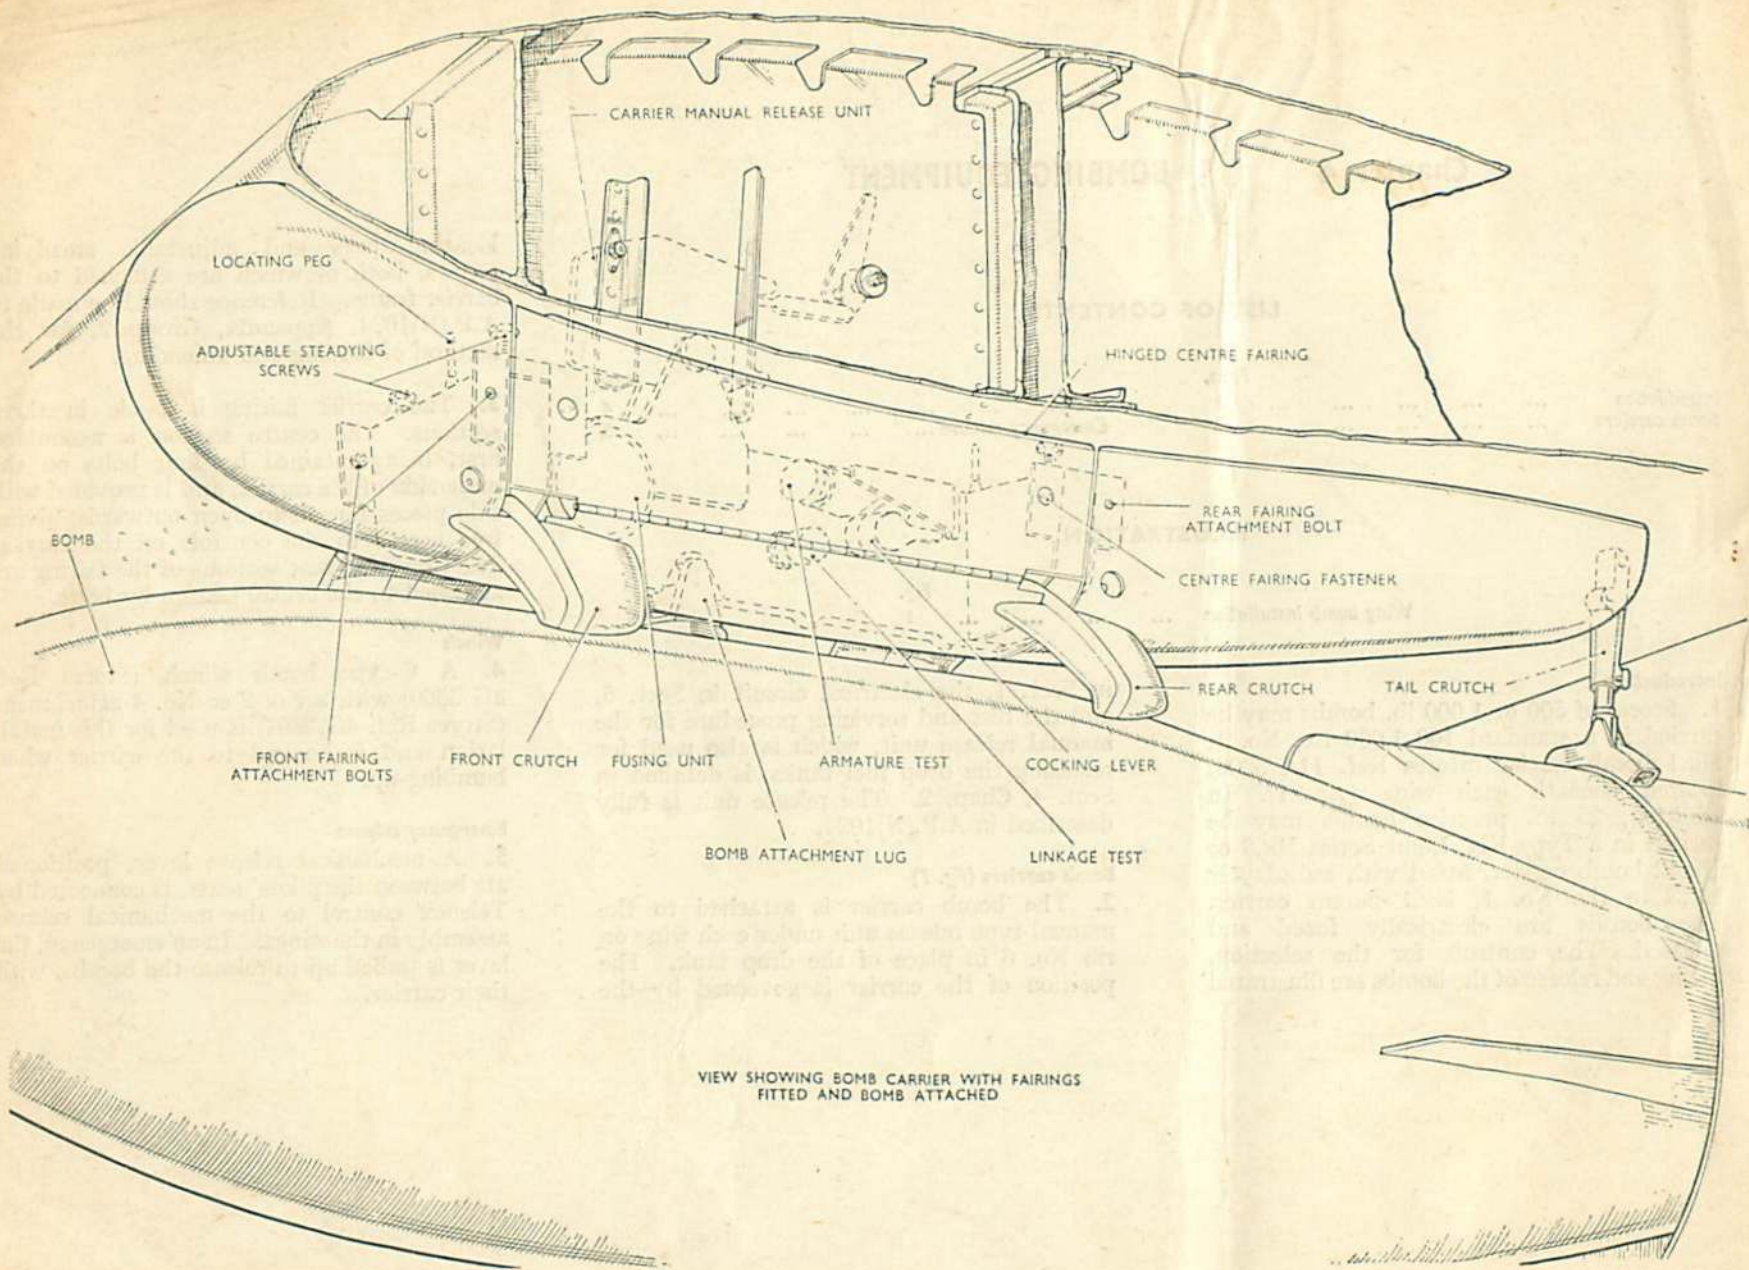

Fig. 1. Wing bomb installation
1. Stores of 500 or 1,000 lb. bombs may be carried in a standard 100/1,000 lb., No. 1, Mk.1 bomb carrier (Stores Ref. 11A/3206) located beneath each wing (*fig. 1*). In addition, 25 lb. practice bombs may be carried in a Type EM, Light Series Mk.3 or Mk.12 bomb carrier, fitted with an adapter Mk.3 to the No. 1, Mk.1 parent carrier. The bombs are electrically fuzed and released. The controls for the selection, fuzing and release of the bombs are illustrated
Bomb carriers (*fig. 1*)